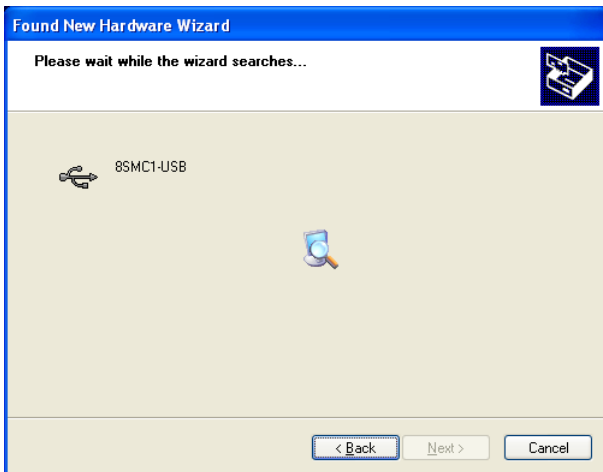

Figure 62. Hardware wizard 3rd screen
- Wait until installation will be done (see Figure 62) and press "Finish" button (see Figure 64).